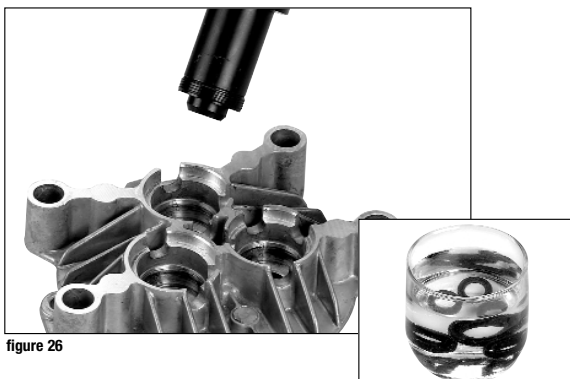

figure 26
- Soak new oil seals in water for 10 minutes. (inset figure 26)
- Place seal in housing using installation tool. (figure 26)